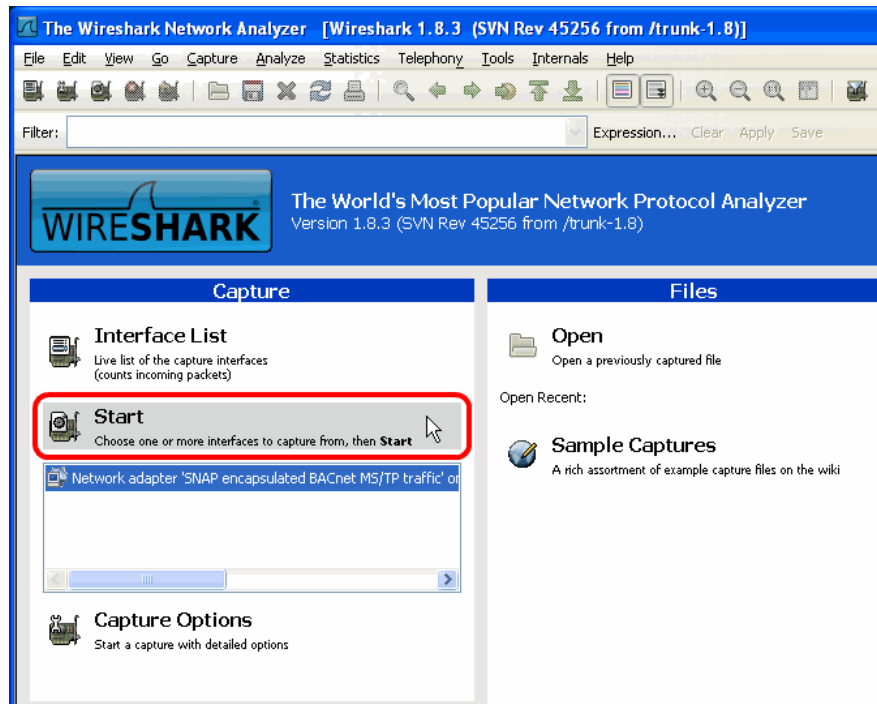

Figure 270: Start Remote Capture in Wireshark.
2. Click the **Start** button as shown in Figure 270.